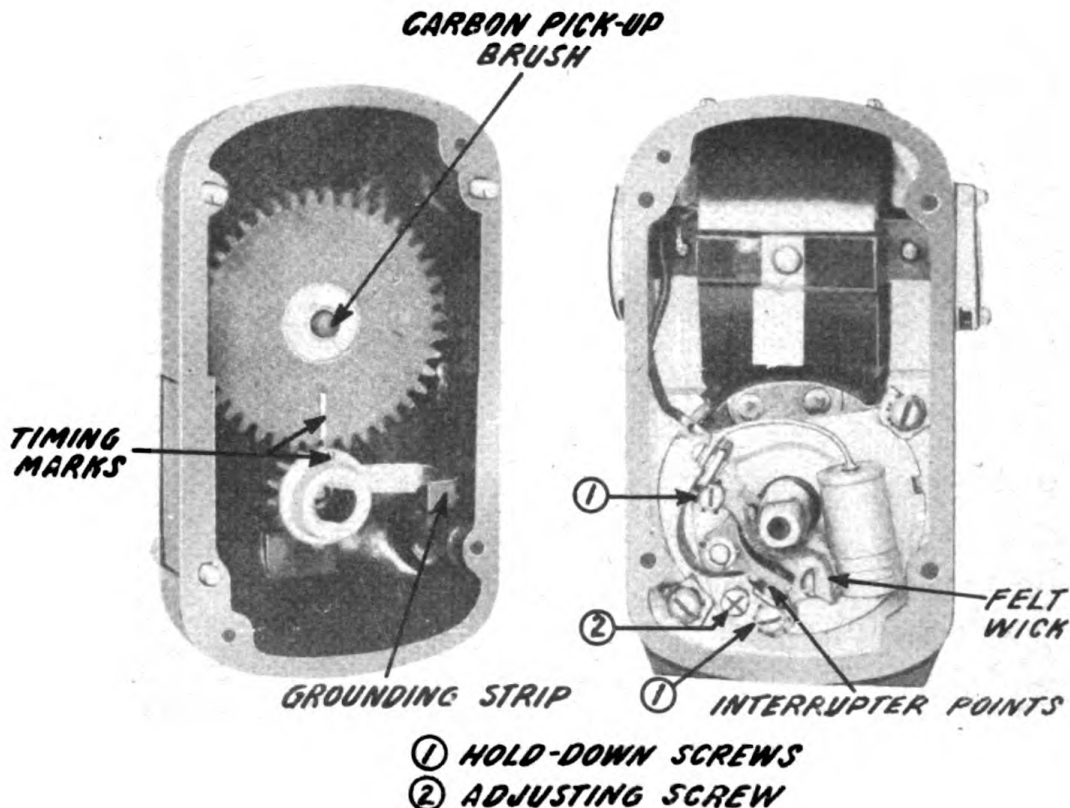

Figure 232. Magneto with distributor Plate Removed.
The proper method of removing and replacing the distributor plate assembly to permit contact inspection or adjustment is: (See Figure 232).
The contacts Figure 232, should be adjusted to an opening of .014" - .018" when the interrupter lever fibre bumper rests on the top of the cam lobe. Do this by shifting the adjustable contact bracket until the correct opening has been reached, then tighten the bracket by means of its fastening screws.
B. Then straighten the two tabs on the lockwasher connecting the two halves of the timing coupling, See Figure 234, and rotate the rear half of the timing coupling until the line on the distributor gear is visible in observation window. Figure 232. This operation is best performed by turning the armature in the opposite direction of rotation to that in which it will be driven by the engine, thus eliminating the engagement of the impulse weights. Approximate timing is now obtained.